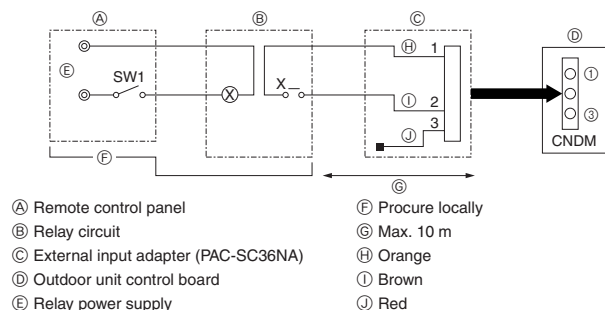

Fig. 9-1
9.1. Low noise mode (on-site modification) (Fig. 9-1)